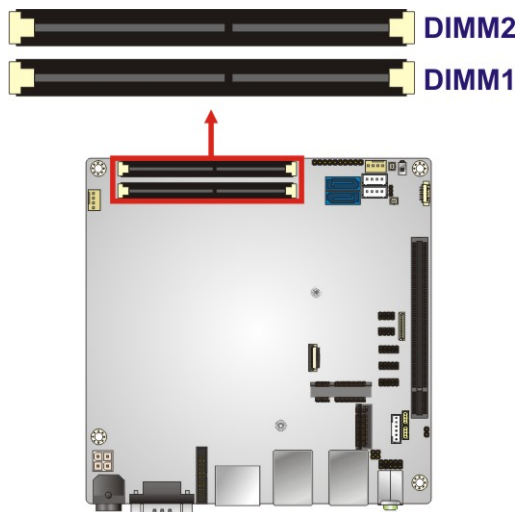

Figure 3-7: DDR4 SO-DIMM Socket Locations
- CN Location:** See **Figure 3-7**